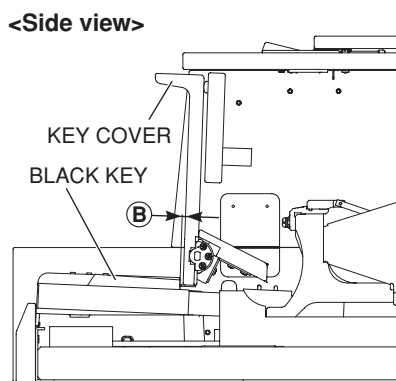

Fig. 4
(7) Key cover front/rear position within standard? (Check the left and right end.)
- Standard 1 Make sure that with the key cover opened the gap between the back of the black keys and the front surface of the key cover is within standard. (Fig. 4)
3.3 mm +1.7 mm/-1.3 mm, difference on the left and right within 1 mm (Fig. 4)